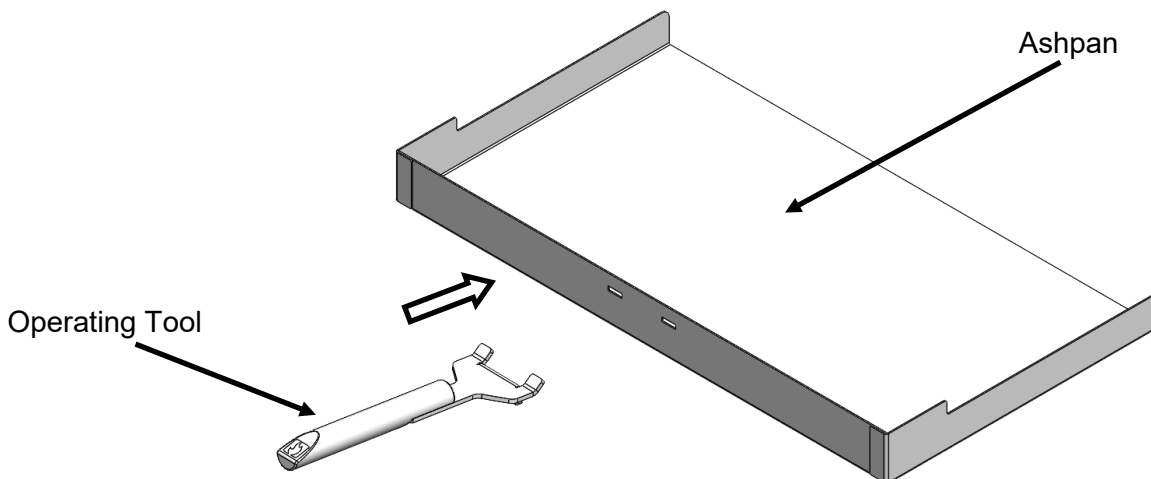

Fig. 11. Ash Pan & Operating Tool
- Insert the fork end of the operating tool into the ash pan (see Fig. 11).